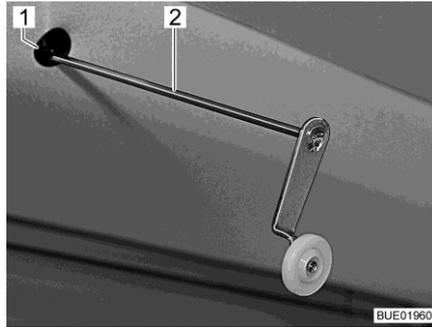

Fig. 146 Crank for emergency operation
- Insert the crank (Fig. 146,2) provided or an Allen wrench into the accommodation (Fig. 146,1) on the motor. The holder is in the cut-out in the surround at the top left of the pull-down bed.